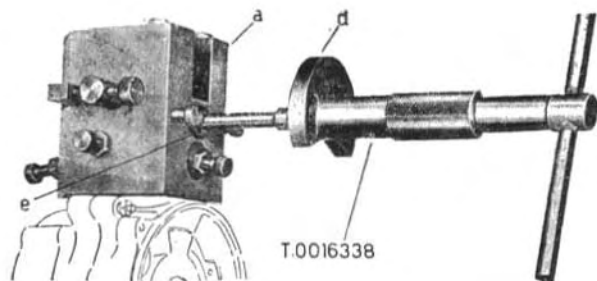

Fig. 101 - Assembling the new bronze bush.
3. - Fit the new bronze bush by means of tool T.0016338 (see Fig. 101) as follows: